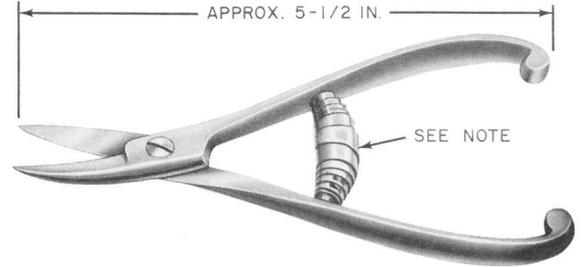

Fig. 18—WISS 625 Cutting Pliers
2.18 WISS 625 Cutting Pliers: The WISS 625 cutting pliers (Fig. 18) are used in cutting wrapped connections which are inaccessible with standard cutting pliers.